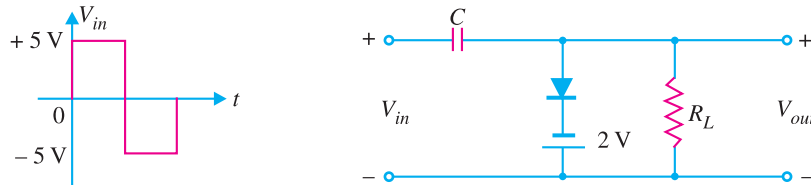

Fig. 18.59
**Example 18.19.** Sketch the output waveform for the circuit shown in Fig. 18.59. It is given that discharging time constant ( $= CR_L$ ) is much greater than the time period of input wave.